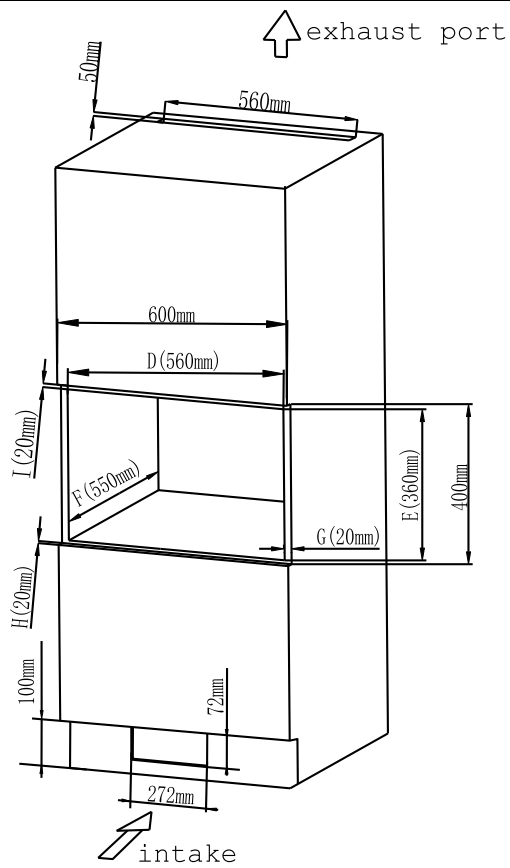

Fig. 5
Opening size: (D)560±2 x (E)360±2 x (F)550±2 (mm) as shown in Fig. 5 "D", "E", "F".